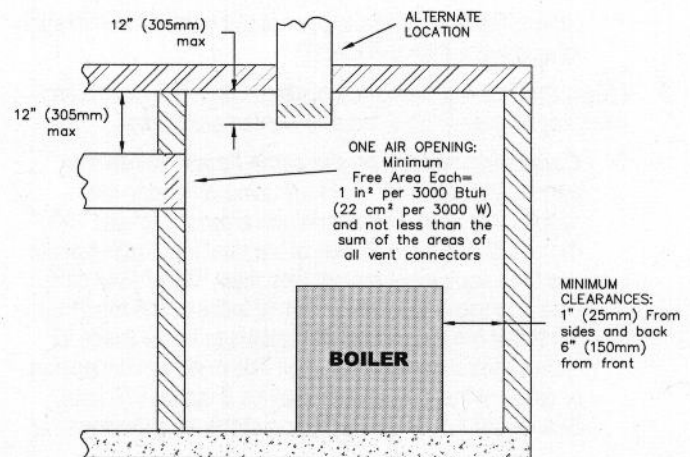

Figure 1.6: Air Openings – All Air from Outdoors through One Opening
- b. **One Permanent Opening Method:** Provide one permanent opening beginning within 12 inches (305 mm) of the top of the space. The opening shall communicate directly with the outdoors, communicate through a vertical or horizontal duct, or communicate with a space that freely communicates with the outdoors. The opening shall have a minimum free area of 1 in2 per 3000 Btu/hr of total rated input for all appliances in the space and not less than the sum of the cross-sectional areas of all vent connectors in the space. The gas-fired equipment shall have clearances of at least 1 inch (25 mm) from the sides and back and 6 inches (150 mm) from the front of the appliance. See Figure 1.6 for this arrangement.